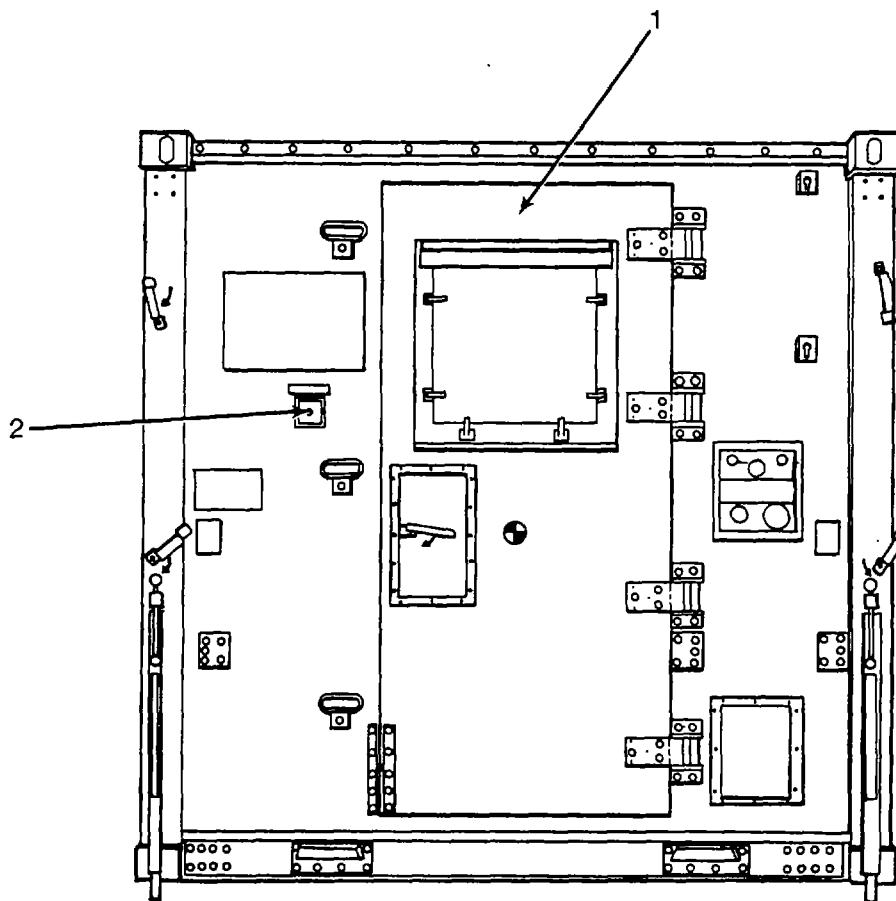

Figure 1-2. Outside Front View of Press Section
Left and right orientation is determined by facing the ISO shelter personnel door from the outside. Paragraph numbers below correspond to callouts in Figure 1-2 through figure 1-4. All equipment is located in its operational position.
a. Outside Front View of Shelter. Refer to Figure 1-2 for location of major components.
- (1) Personnel Door-Provides means for entering the shelter.
- (2) Blackout Button-When depressed, sounds buzzer. Used only during blackout conditions.